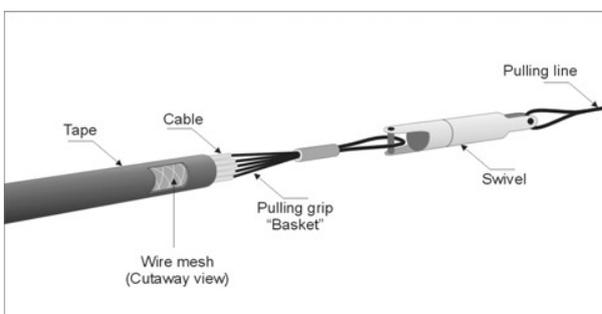

Figure 6. Swivel and pulling grip
- The pull can be accomplished by using a cable pulling winch. Care must be taken not to exceed the cable’s rated pulling strength. The cable should be coupled to the pulling line with a double swivel eye and basket or “Kellam’s” grip.(Figure 6).